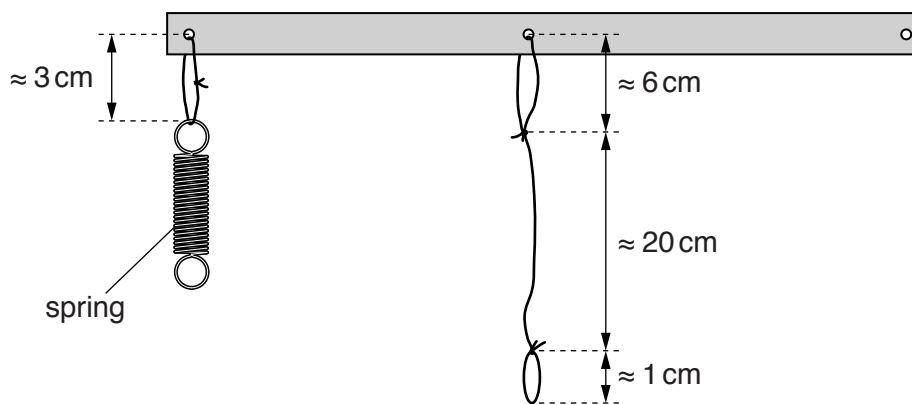

Fig. 1.3 (not to scale)
- 3 Attach the string and the spring to the wooden strip as shown in Fig. 1.3.